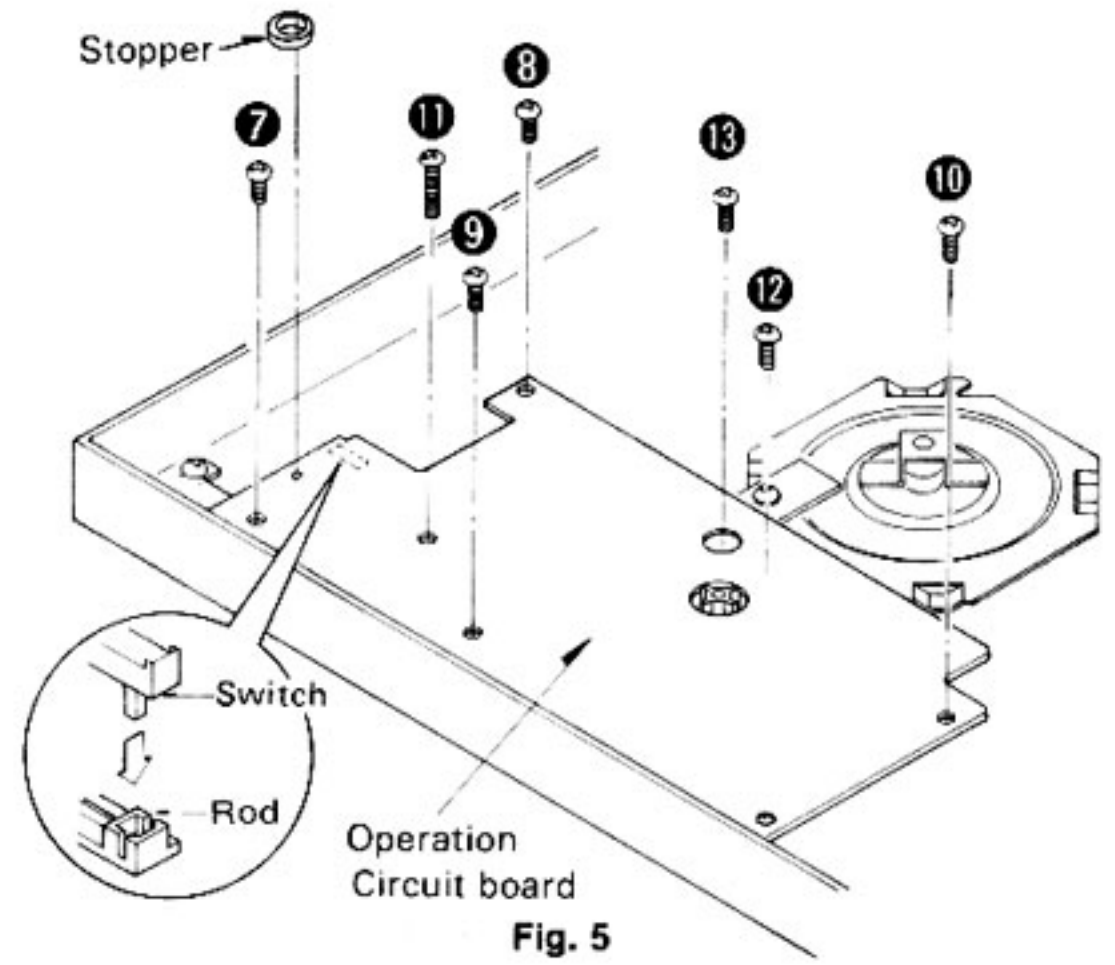

Fig. 5
2. Remove the 7 operation circuit board setscrews (Fig. 5: ⑦~⑬) and the stopper.